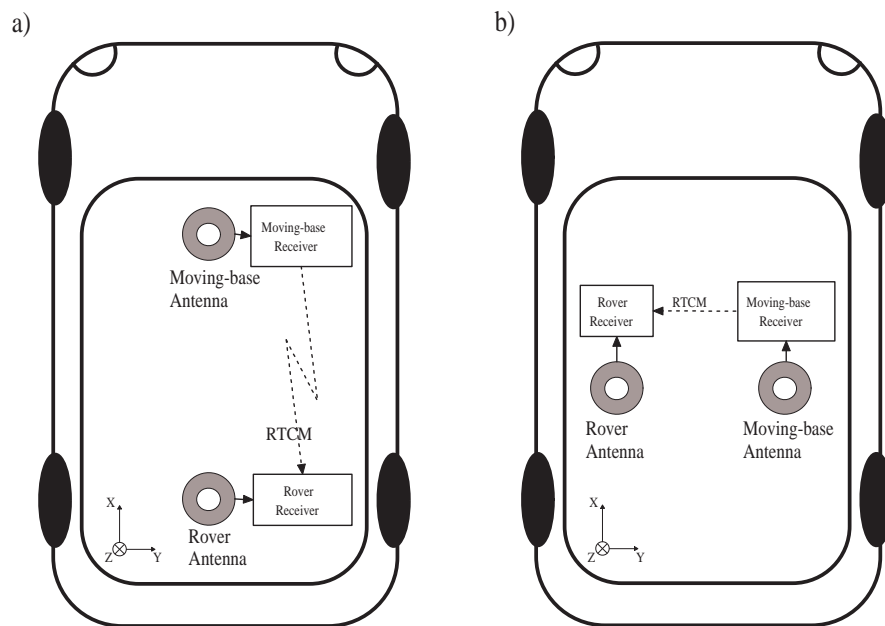

Figure 1-4: Moving-base attitude determination setup. a) default configuration. b) example of non-default configuration.
The heading and pitch of a vehicle can be derived from the orientation of the baseline between a base and a rover antenna when both antennas are attached to the vehicle. The base antenna is connected to a first receiver configured as RTK moving base station. The rover antenna is connected to a second receiver configured as RTK rover and accepting the RTCM stream from the first receiver. This is illustrated in Figure 1-4.
1. Attach two antennas to your vehicle. The default antenna configuration is as depicted in Figure 1-4 a). It consists in placing the antennas aligned with the longitudinal axis of the vehicle. If such configuration is not possible, you will have to provide additional information to the receiver, as explained below. For best accuracy, try to maximize the distance between the antennas, and avoid significant height difference between them.
5. By default, the attitude angles are computed assuming that the two antennas are aligned with the longitudinal axis of the vehicle, and that the moving-base antenna is in front of the rover antenna (see Figure 1-4 a)). If you cannot place the antennas in such configuration, the reported attitude angles will be biased. There are two ways to remove these biases:
(a) The biases can be removed by telling the receiver where the moving-base antenna is located in the vehicle reference frame (see appendix A). This is done by specifying the coordinates of the baseline between the rover antenna reference point (ARP) and the moving-base ARP in the X, Y and Z directions. For example, in the configuration b) of Figure 1-4, assuming that the distance between the antenna ARPs is 1 meter, you would issue (on the rover receiver):